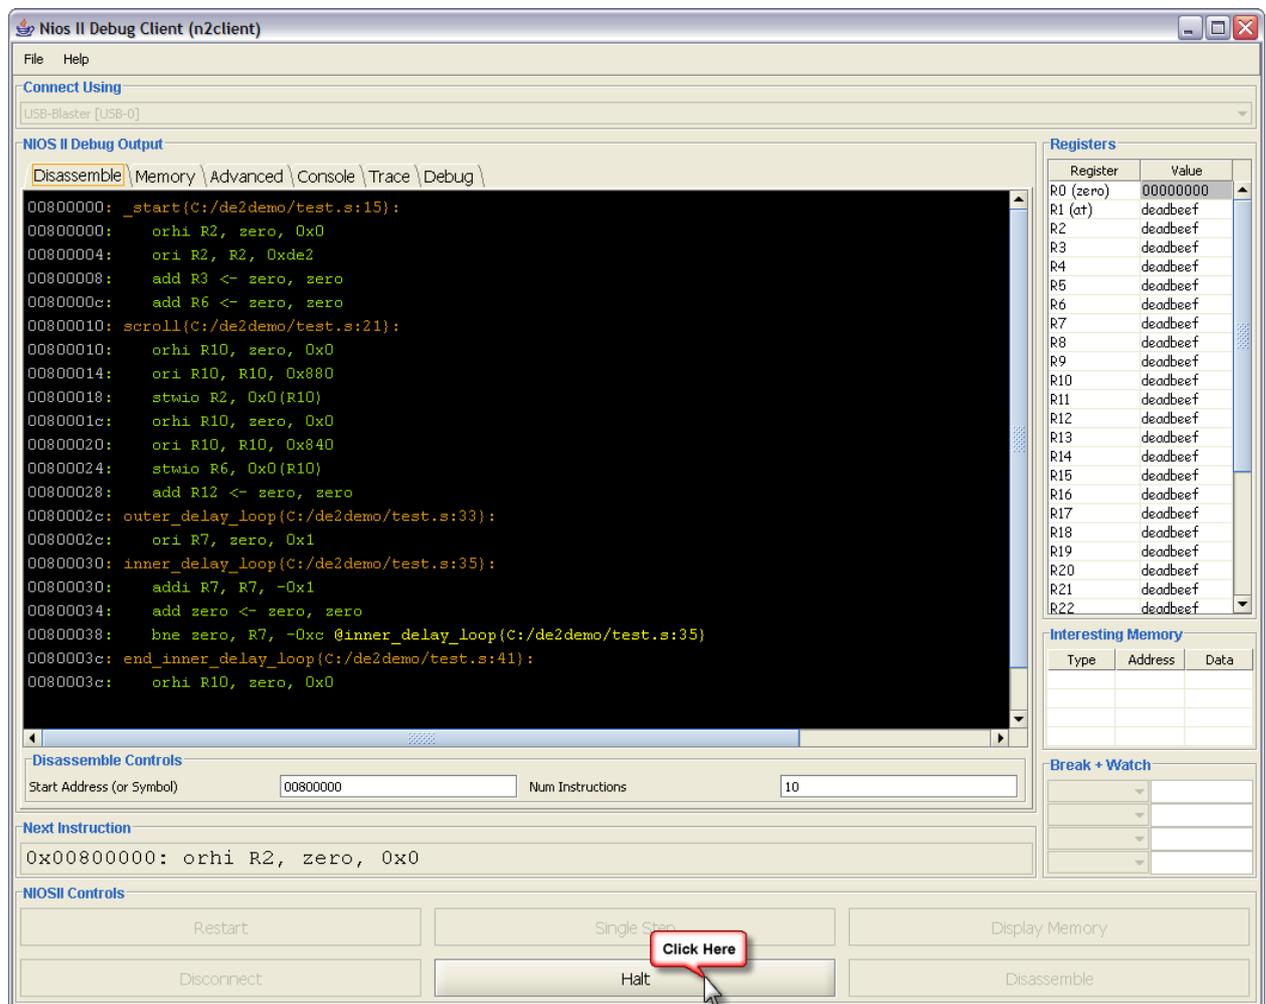

Figure 12: Program Running.
2. While the application is running, the Nios II Debug Client will only have a single button that is enabled. This is the **Halt** button and is shown in Figure 12. This button can be used to stop the execution of the target application and allow for debugging.